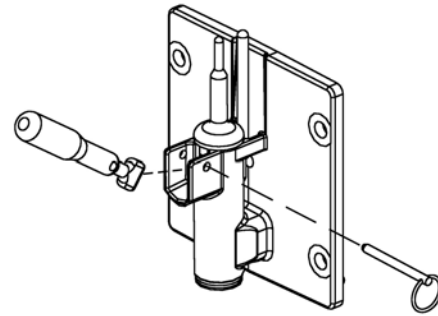

Figure 3-4 Remove Spigot Pin
- B. Pull out the spigot pin by its ring (Refer to Figure 3-4).